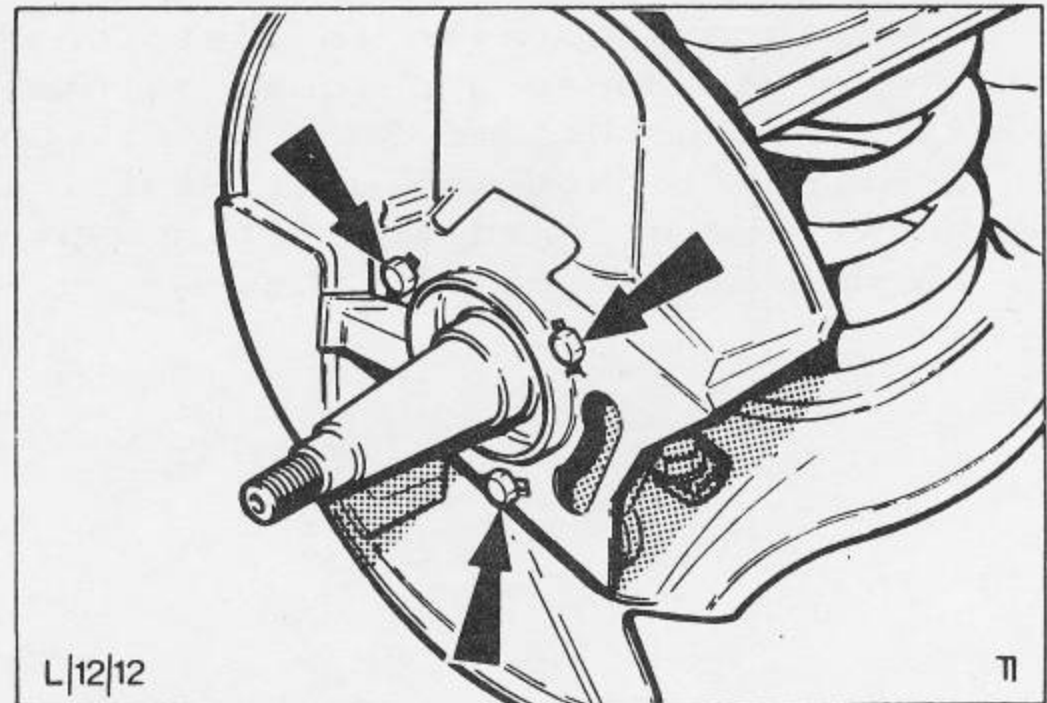

Fig.12 Splash shield retaining bolts.
5. Bend back lock tabs and remove bolts retaining brake splash shield to stub axle. Remove splash shield Fig.12